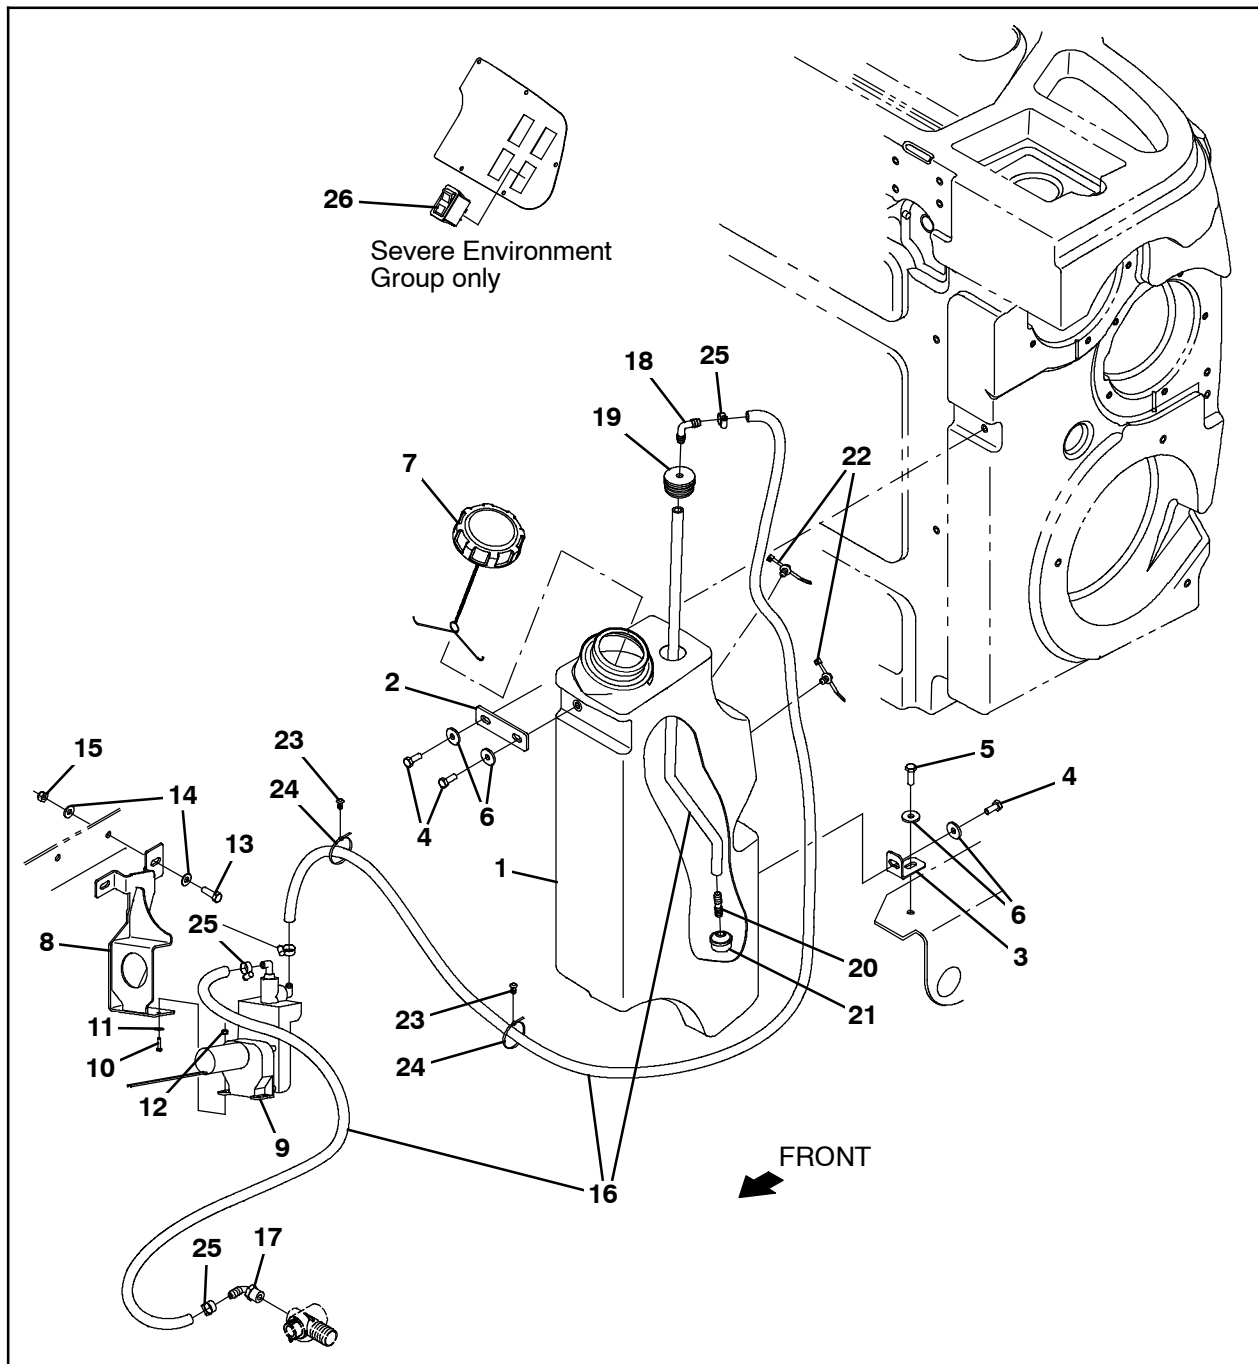

FIG. 9
- 25. Use tie clips (23) and cable ties (24) to secure the 119 in. (3023 mm) PVC hose (27) to the machine. (Fig. 9)